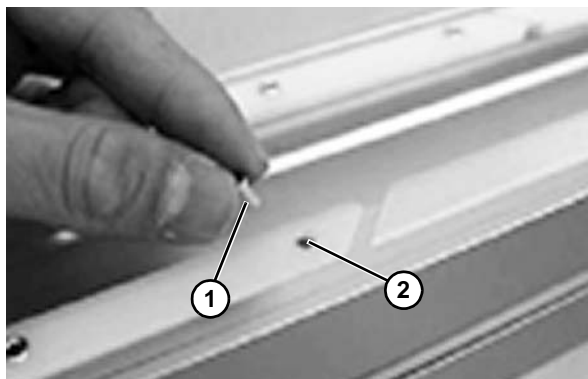

Figure 46
1. Insert the aluminum rivets (**Figure 46, item 1**) into the holes (**Figure 46, item 2**).